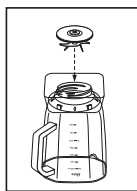

Fig. 16
3. Turn the multi-functional blade with sealing ring upside down and place into the bottom of the jar (Fig. 16).